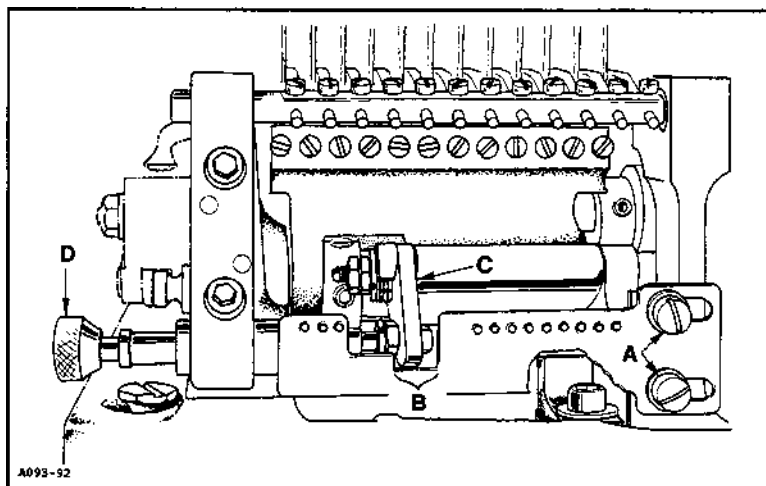

Fig. 18
Turn the handwheel in operating direction until the needles are at their highest position. Loosen screws (A, Fig. 18) and position eyelet notch (B) so it will allow looper throw-out fork (C) to pass over the notch when looper throw-out plunger knob (D) is pulled to the left, releasing the looper holder for looper threading. When the needles are at their lowest position looper throw-out fork (C) should not pass the left side of eyelet notch (B) if looper throw-out plunger knob (D) is pulled to the left.